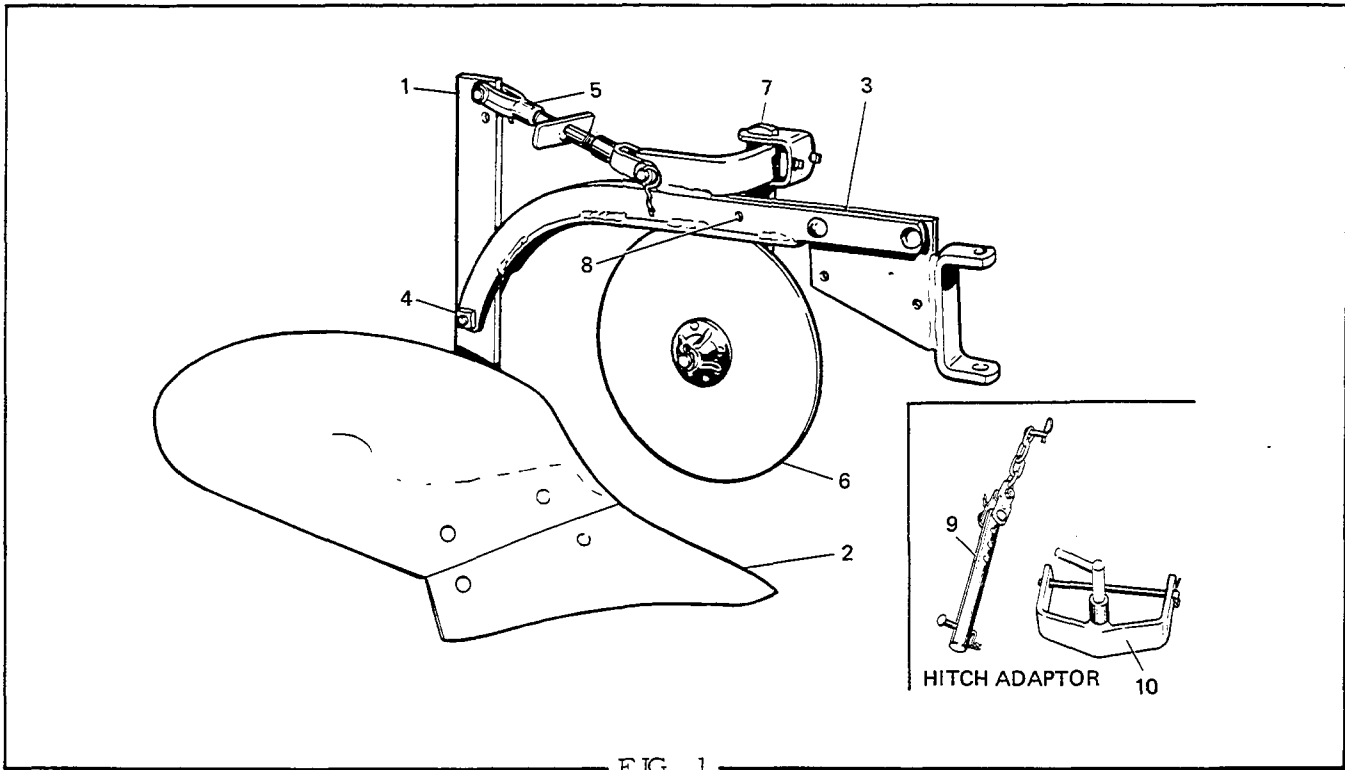

FIG. 1
ASSEMBLY AND ADJUSTMENT (Fig. 1) (REQUIRED HITCH ADAPTER)
1. Remove the gang bolts (1) from the frames and assemble the discs (2) into right hand left hand gangs as shown in Fig. 1. Insert the gang bolts through the discs and wood bearings and